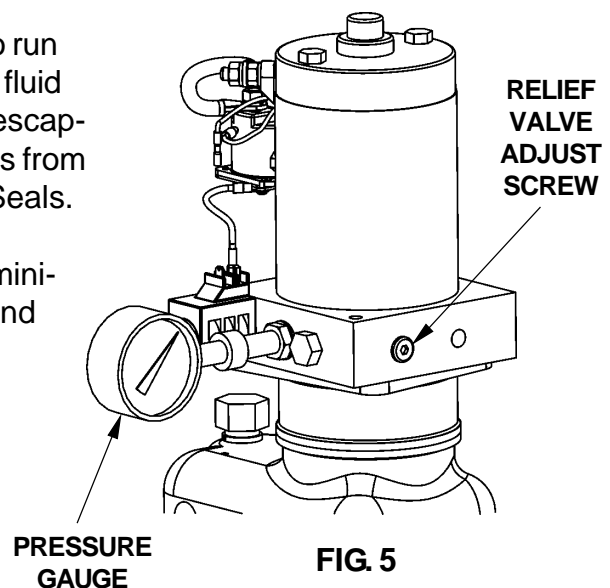

FIG. 5
3. With Platform on the ground, remove the pressure hose and fitting from the Pump and replace it with a 0-3000 PSI Pressure Gauge. Hold the switch in the "UP" position. Adjust the Relief Valve on the side of the Pump until the gauge shows 2800 to 3000 PSI (**FIG. 5**). Remove gauge and re-install pressure hose.